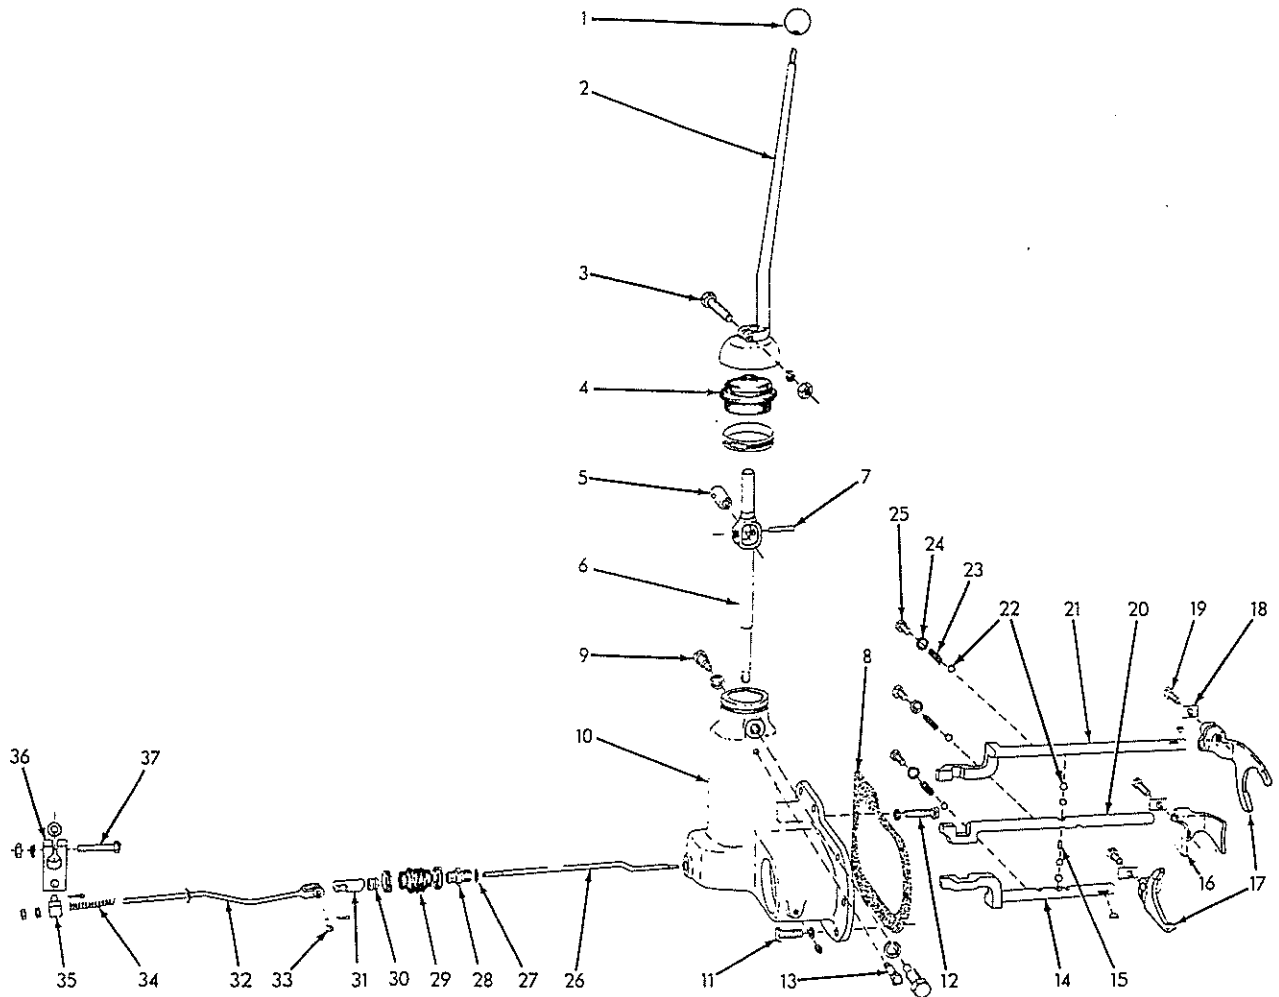

Fig. 9 Gear Shift Details
- e. Install detent ball, Fig. 9 (22) and spring (23) in each of three tapped holes on right front side of transmission case. Start capscrews (with washers) Fig. 3 (9); tighten capscrews enough to compress springs slightly.
- f. Position shifting forks on shafts and sliding gears on pinion shaft to obtain maximum tooth contact between mating gears when engaged and clearance between gears when in neutral. Clamp shifting forks to shafts by torquing capscrews, Fig. 9 (19) to 83 to 93 lbs. ft. Return all shafts to neutral position; tighten capscrews, Fig. 3 (9).
- g. Install locking plunger sleeve and washer, Fig. 9 (28) (27) in shift lever housing; install locking plunger (26) through sleeve from rear side of housing.
- i. Coat I.D. at each end of locking plunger boot, Fig. 9 (29) with "Neoprene" cement; clamp one end of boot to locking plunger sleeve. Turn nut (30) to end of threads on locking plunger; install locking plunger end (31) and lock against nut (30). Clamp end of boot (29) to plunger end.
- j. Install shift lever Fig. 9 (6) in shift lever housing; make certain lower end of lever is in notched ends of shifting shafts. Secure shift lever with pivot screws (9). Install shift lever boot (4); secure with clamp.
- k. Install gear shift lever, Fig. 9 (2); push lever down so top of shift lever (6) is above clamping boss. Tighten clamping capscrew.
4. Connect locking plunger rod, Fig. 9 (32) to plunger end (31). Adjust length of control rod (32) so transmission will shift with engine clutch disengaged and will not shift with engine clutch engaged.